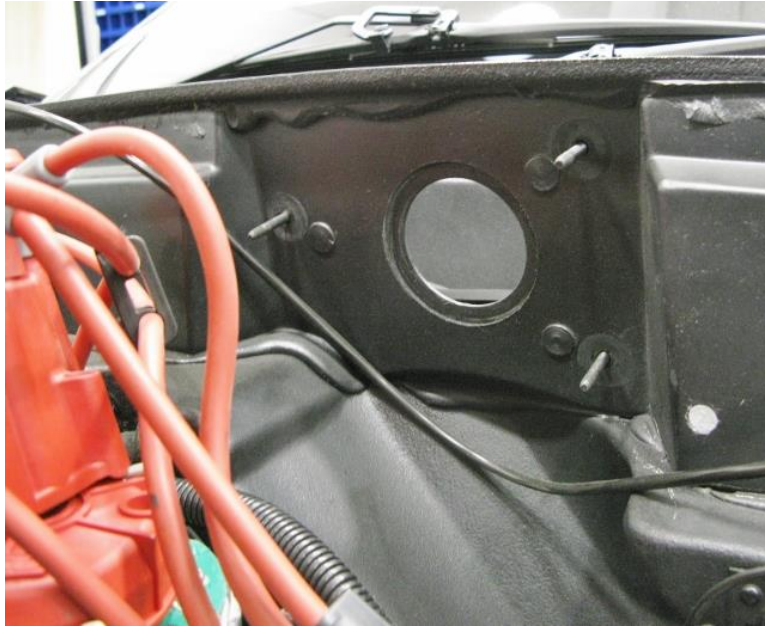

Figure 2 – Remove Original Wiper Motor
5. Remove the 3 nuts holding the original wiper motor to the firewall stud plate and remove the wiper motor (Figure 2).